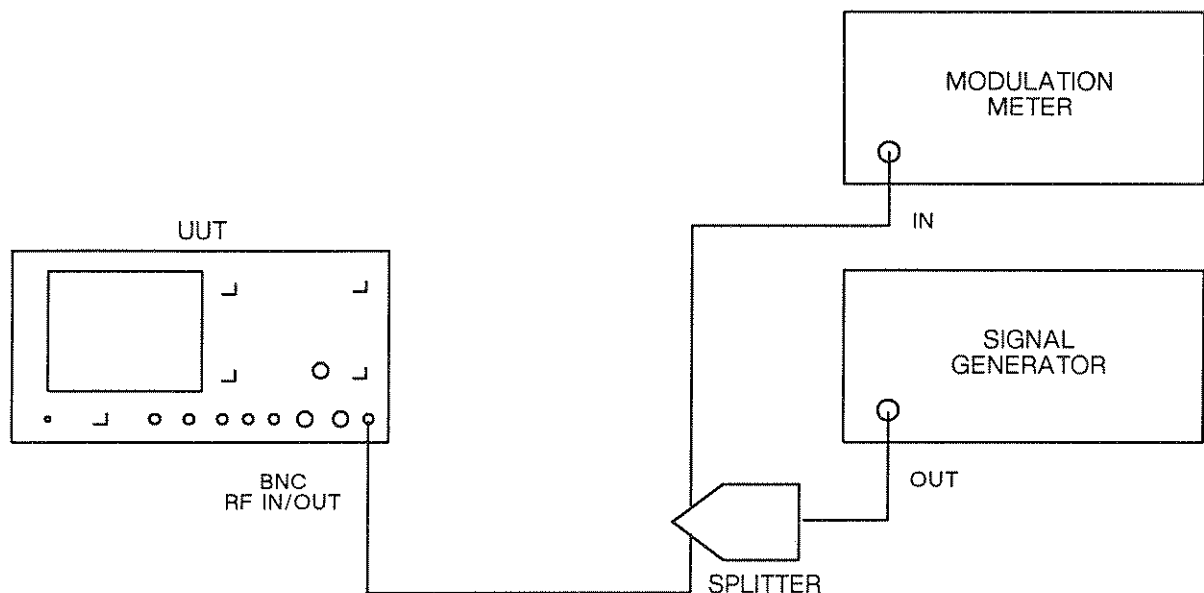

Fig. 5-4 Test equipment connections for modulation meter AM and FM monitor accuracy
- (1) Connect the equipment as shown in Fig. 5-4.